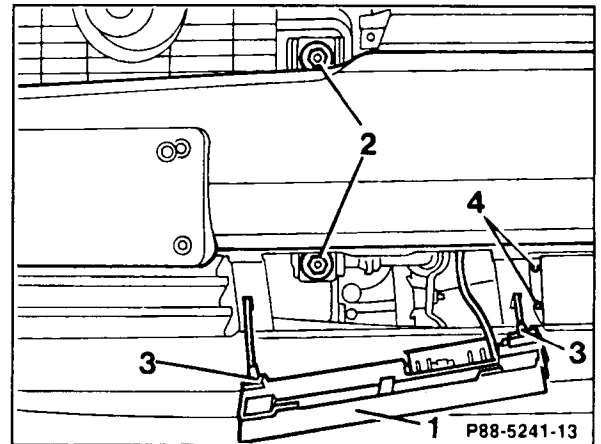

Figure 7
16. Remove retaining straps from mounting bolt access flaps (1, Figure 7) and press into AMG flaps.
19. To adjust driving lamps, open access flaps and adjust lamps by turning Phillips head screws (4, Figure 7).